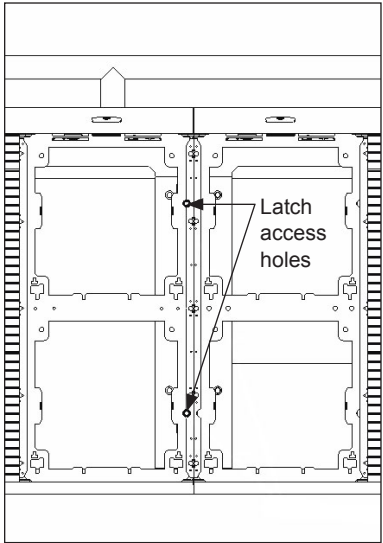
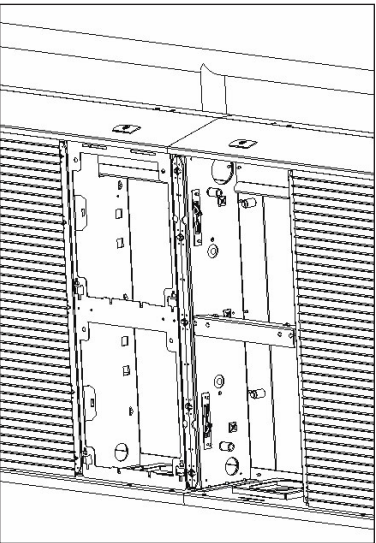

Figure 9: Interconnecting Sections
Figure 10: Interconnecting Sections
- 7. Remove the outermost modules or module pans of each section to access the interconnect latches. Refer to **Module** or **Module Pan in Service & Maintenance**. After aligning the sections, tighten the upper latch halfway by turning it clockwise. Refer to **Figure 9**. Align the bottom of the sections in the X and Z directions and fully tighten the lower latch by turning it counterclockwise. Fully tighten the top latch and ensure the seam is tight and the sections are vertically aligned; readjust as necessary. Refer to **Figure 10**.